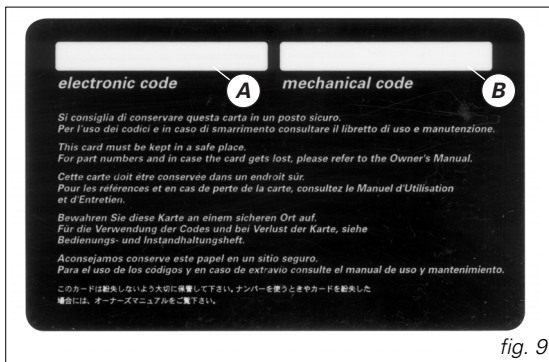

fig. 9
A) (fig. 9) the electronic code to be used to be used in case of engine block, i.e. bike did not start after **key-ON**.
B) (fig. 9) the mechanical code for the keys to be reported to the DUCATI Service network when you are ordering any duplicate keys.